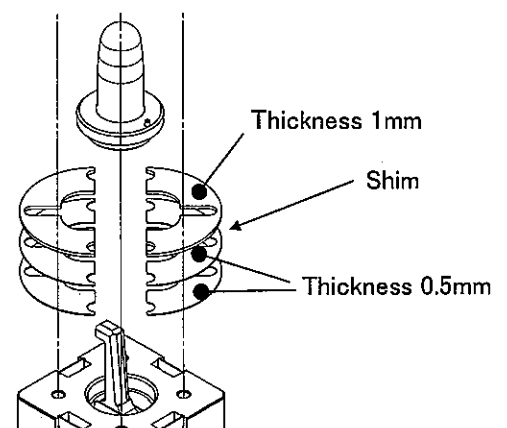

Fig. 7-17
- If the shim is attached, insert it between the guide pin and body. (Fig. 7-17)
Note: The mounting order of shim is as shown on Fig. 7-17.